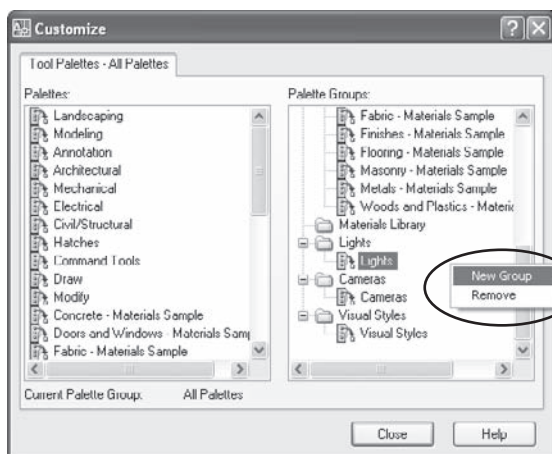

Figure 3.4
2. Right-click in an empty area of the *Palette Groups* pane, and select *New Group* to create a group for your new tool palette (see Figure 3.4). Name this new group **Sybox**.